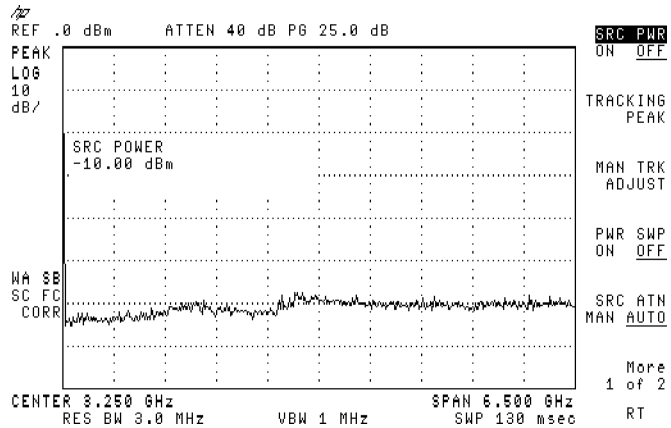

Figure 3-15. Setting Up the Tracking Generator (HP 8593E/94E/95E/96E)
3. Press **SRC PWR ON OFF**. The source power becomes the active function (SWR PWR in inverse video) however, the source power has not been turned on. See Figure 3-15.